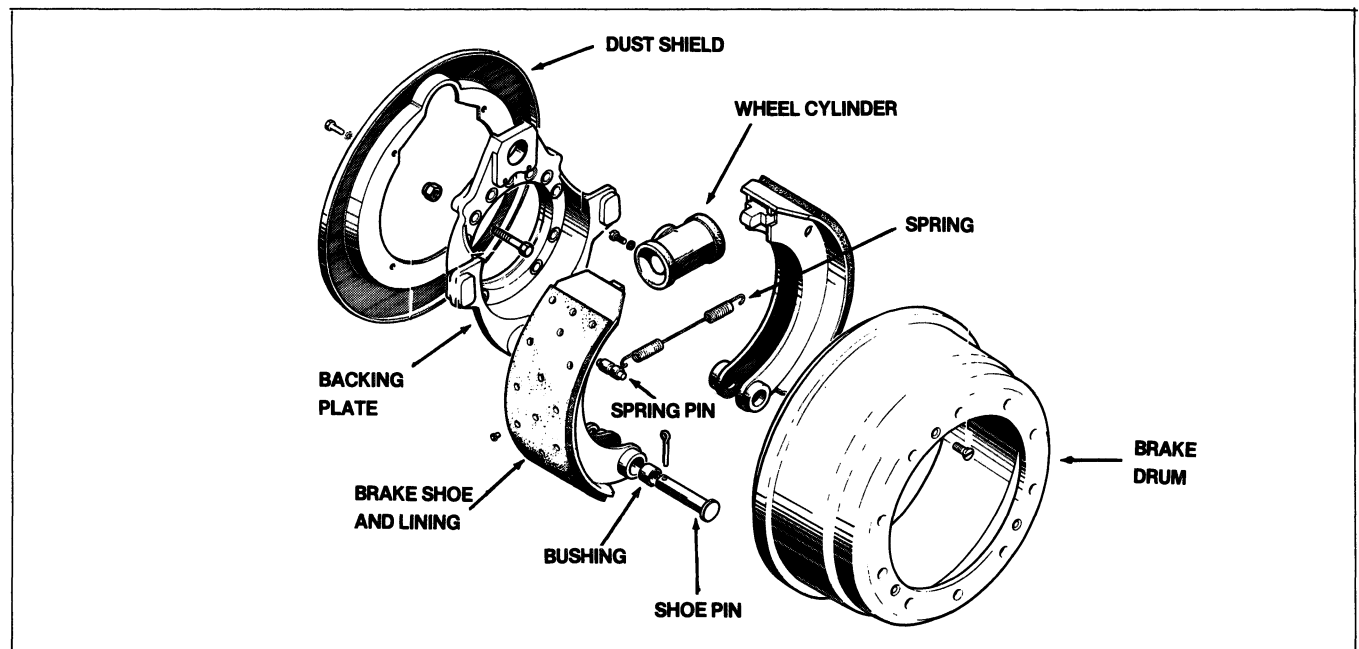

Figure 2. Rear Brake Assembly
3. Drive out pin, Figure 2, and remove button.
2. Reassemble the parts shown in Figure 2. Torque the locknut to 30 to 40 inch-pounds (3.4 to 4.5 Nm).
1. Position the brake shoes over the guide pins (rear brake only) and anchor pins, Figure 2.